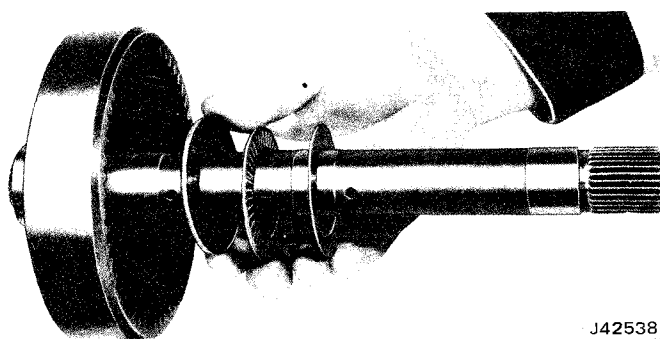

Fig. 2C-137 Installing Thrust Bearing and Bearing Races On Main Shaft
(3) Install output carrier over main shaft and mesh carrier pinions with rear internal gear.
(4) Position assembled components so that main shaft extends downward through hole in bench and rear surface of rear internal gear faces upward.
(5) Install rear internal gear-to-output shaft races and thrust bearing (fig. 2C-138). Use petroleum jelly to retain parts.
(6) Place small race against internal gear with center flange facing upward.
(7) Install thrust bearing in race and place large race over small race, with outer flange of race cupped over bearing.